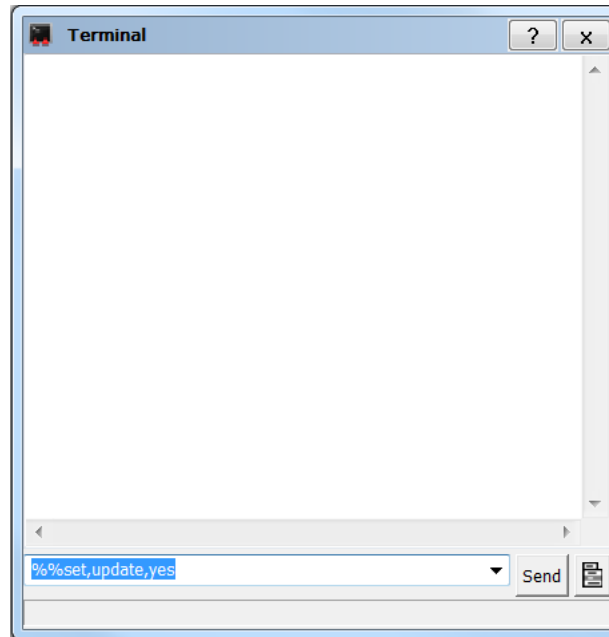

Figure 18: Send the Update Command
- Enter `%%set,update,yes` in the command prompt, and click **Send** (Figure 18).